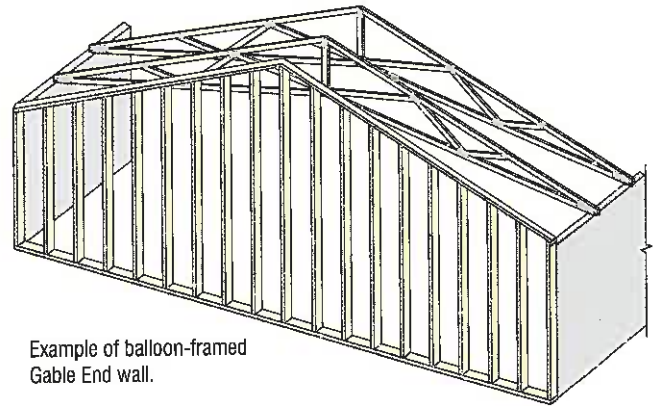

FIGURE B3-41
- ☑ The Building Designer may decide to design a balloon-framed end wall, which eliminates the need for a Gable End Frame (see Figure B3-41). If a Gable End Frame is used, it must match the profile of the adjacent Trusses so that proper Bottom Chord Plane Bracing can be installed (see Figure B3-42A), unless special Bracing is designed to support the end wall.